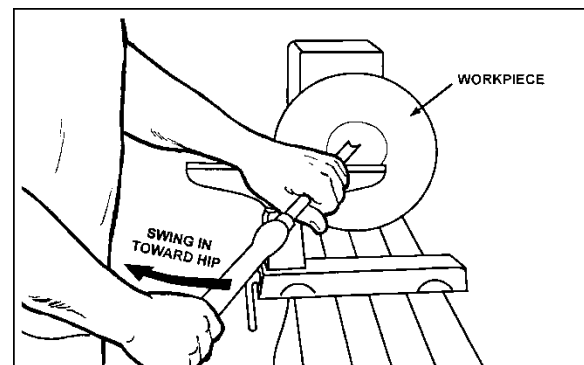

Figure 10-11
5. Place 1/2" bowl gouge on tool support at center of the workpiece with the flute facing top of bowl. The tool handle should be level and pointed toward the four o'clock position, as shown in Figure 10-11.
6. Use the left hand to control cutting edge of gouge, while right hand swings tool handle around toward your body (Figure 10-11). The flute should start out facing the top of the workpiece, and rotate upward as it moves deeper into the bowl to maintain a clean, even curve. As the tool goes deeper into the bowl, progressively work out toward the rim. It may be necessary to turn the tool support into the piece as you get deeper into the bowl.